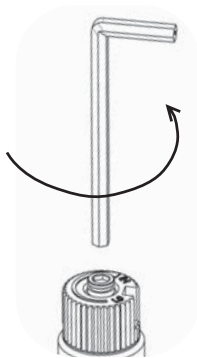

Fig. 2
- 9) Insert a 5/32" or 4mm Allen wrench into the hexagonal key-way of the screw (Fig. 2), rotate it counter-clockwise until it is free and extract it.